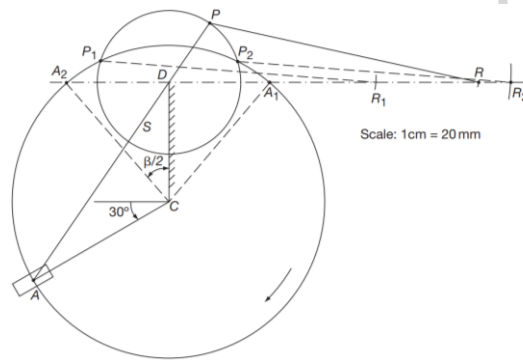

Fig.4b
b) In a Whitworth quick return motion mechanism, as shown in Figure 4b the distance between the fixed centers is 60 mm and the length of the driving crank is 80 mm. The length of the slotted lever is 160 mm and length of the connecting rod is 140 mm. Find the ratio of the time of cutting stroke to the time of return stroke and also the effective stroke. CO2 PO2 08